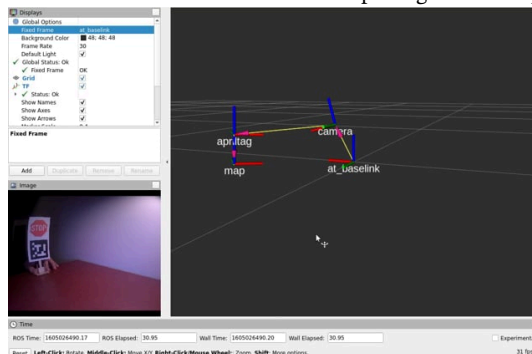

Figure 4.7. Example video deliverable for the AT localization package with rectified images
- Instead of directly using compressed images, rectify them before passing them to the Apriltag detector. You will see that this significantly improves the accuracy of the detector but at the cost of significant delay. Provide a screen recording similar to this Figure 4.7 where you move the Apriltag in front of the robot from one side of the FOV to the other. Make sure that the video contains the camera images as well as the TF tree in Rviz. You should observe that the `map` and `baseLink` are now in the same plane (or